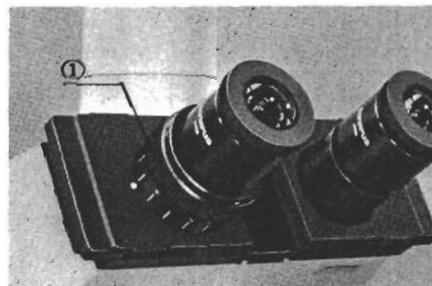

Fig. 12
- 2) Next, look at the image through the left eyepiece with your left eye and rotate the diopter adjustment ring ① to focus on the specimen without using the coarse and fine adjustment knobs. (Fig. 12)